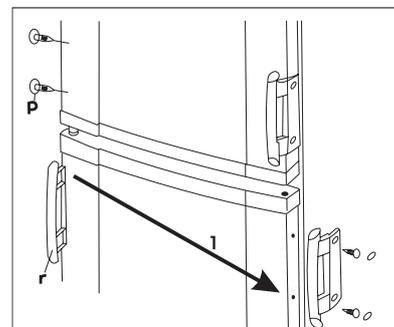

fig. 5.
20. Put over the handles (r) on the other side and put the plastic covering pins (p) supplied in the plastic bag of this instruction book into the vacant holes. (fig. 5)